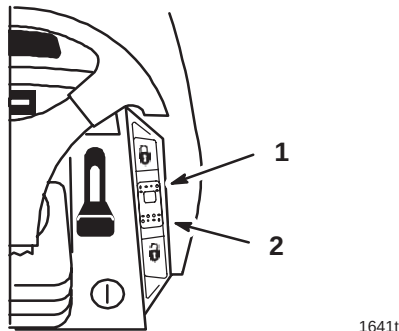

Figure 15
The cruise control is optional on this machine. A 3 position: Set-Lock (spring loaded), On and Off-Unlock dash switch (Fig. 15) controls the engagement. Cruise control maintains the traction control position without foot pressure. Cruise control is intended for operation in the forward direction only. Do not use cruise control in reverse.
1. Begin driving tractor: Refer to Driving Forward or Backward, Page 17. While holding your foot steady on the traction control, push the cruise control switch (Fig. 15) to the **set-lock** position.
1. While holding your foot steady on the traction control, move the cruise control switch (Fig. 15) to the **unlock-off** position.